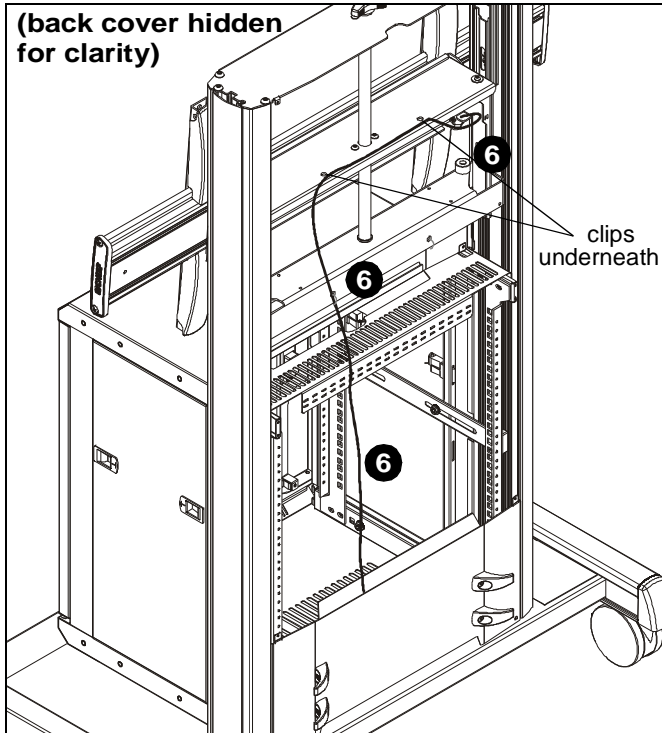

Figure 14
- Route cables from display through inside of cart assembly attaching at cable management attachment points and/or accessory bracket as desired. (See Figure 14)